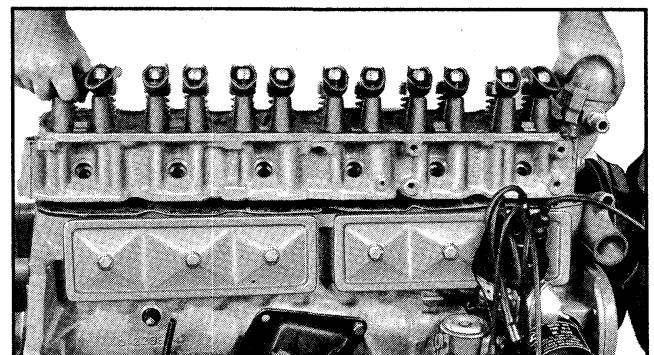

Fig. 6-27 Installing Cylinder Head
2. Carefully guide cylinder head into place over dowel pins and gasket (Fig. 6-27).